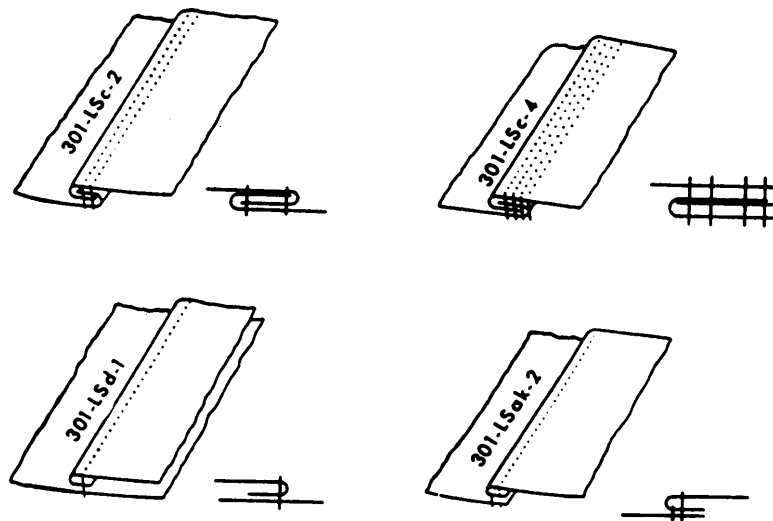

Figure 10-34.—Lapped seam.
**Class LS, Lapped Seams.**— You form the class LS seam by overlapping the material a sufficient distance and stitching with one or more rows of sewing, as shown in the cross-sectional views in figure 10-34. Types of lapped seams are LSc-2, LSc-4, LSd-1, and LSak-2.
2. The LSd-1 seam, as shown in figure 10-34, is used in sewing pockets or patches. Also, use the seam to patch small holes.
3. The LSak-2 seam, as shown in figure 10-34, is used for finishing seams of covers for shop equipment.